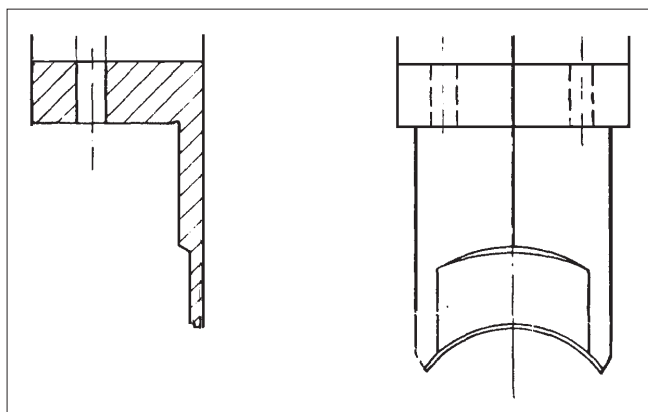

Fig. 11 Locking tool
- Install the locking tools (see Fig 11) to push support seat rings or bellows in to back position.